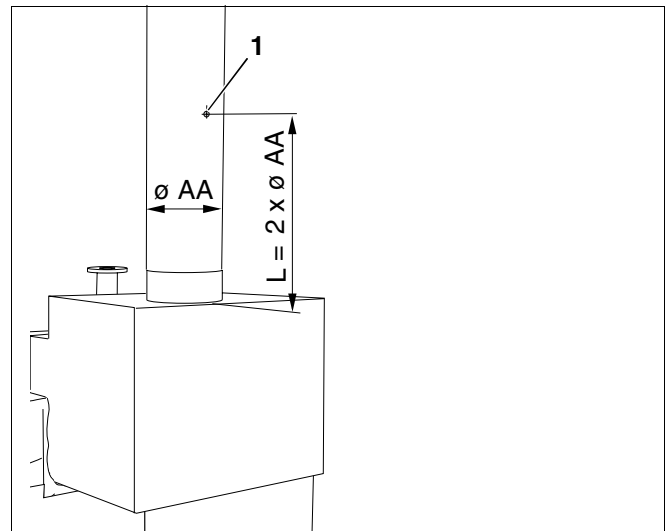

Fig. 10 Recording actual values
Install a test port in the flue pipe (Fig. 10, **Item 1**) to carry out the following tests. The distance from the draught hood must be equal to twice the flue pipe diameter (AA).
- Install the flue pipe test port (Fig. 10, **Item 1**) on the side towards the boiler. For this purpose, drill a 8 mm hole into the flue pipe.